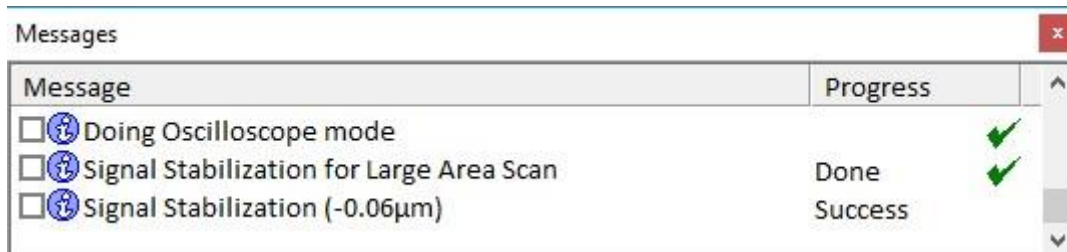

Figure 2: Messages window
8. Repeat clicking on **Start Stabilization** several times until the stabilization height shown in the Messages window is nearly zero (Figure 2).